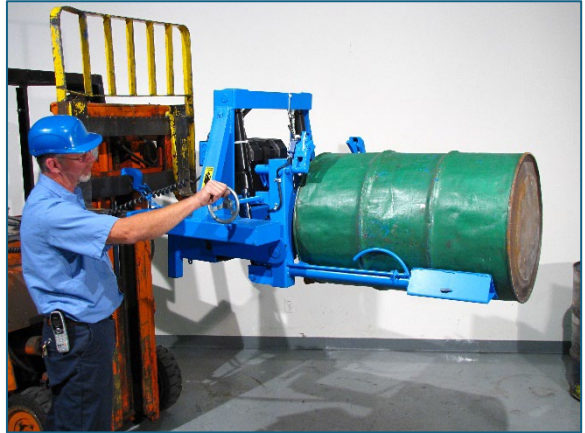

Figure 3.2
2. Drive the MORStak™ forward until the “bridge” meets the head of the drum. (see Figure 3.2).